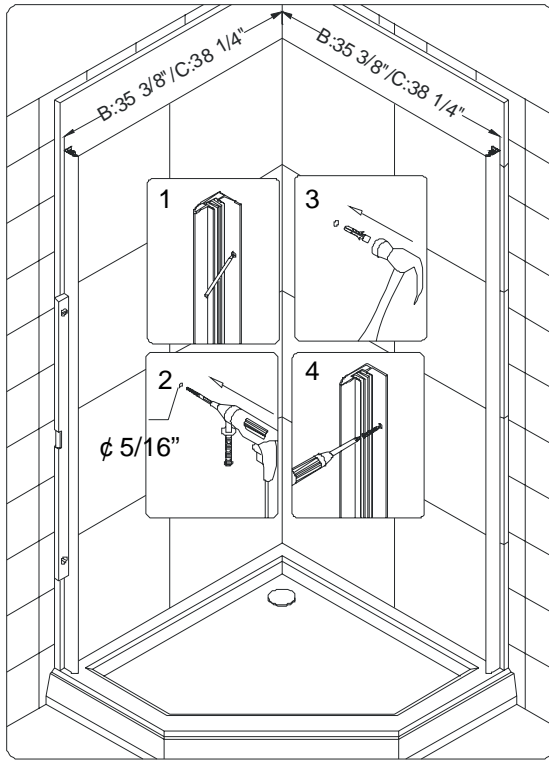

Fig 1
1. You can start installation from any side of the wall. Locate the **Wall Profile (02)** from the package, and then place it vertically above the tray 35 3/8" or 38 1/4" (depending on the size of your enclosure – See Diagram 1) from the corner to the external edge of the profile. Using a level to adjust the wall profile upright, and then use predrilled into aluminum profile holes to put on marks for drilling. Now drill the holes and insert the **Wall Anchors (09)** into the holes. Apply silicone sealant along the holes on the wall. Use **ST4.2x30 Round head self-tapping screws (12)** to attach the wall profile to the wall. See Fig.1 for details.